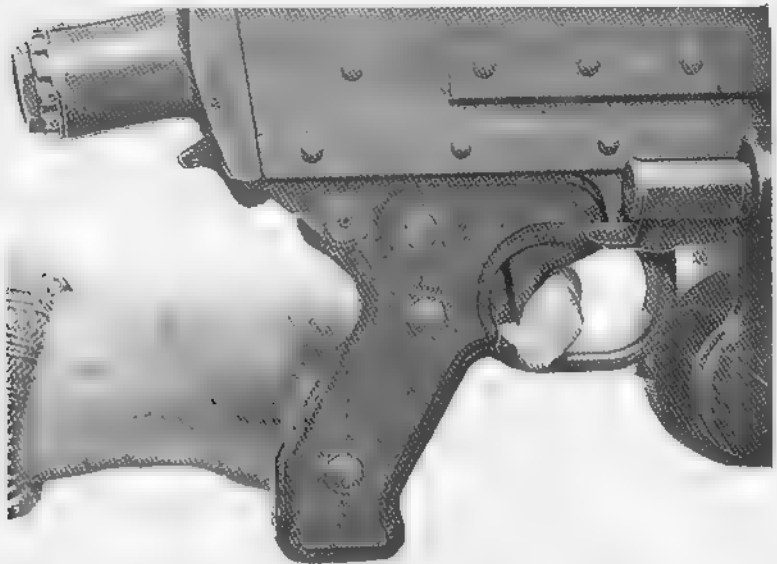

Fig 12.—Correct position of the left hand
58. *Explain and Demonstrate* On the order to fire, use only the left forefinger on the trigger and the thumb behind the pistol grip (*see* Fig 12). This method does not influence the movement of the gun. The sequence of firing is to: